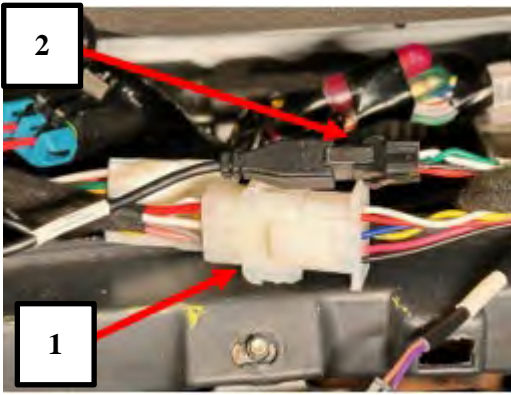
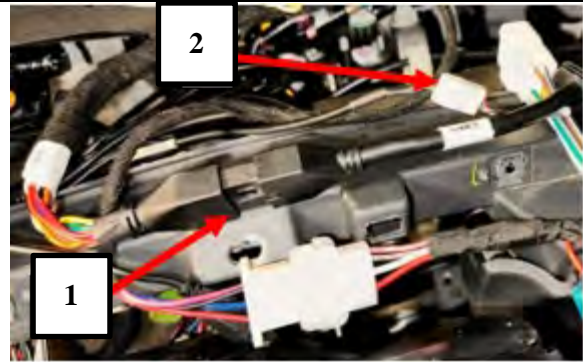

Figure 21
Figure 22
21. Disconnect the camera cable connections. **For Mobileye 6**, connector MH-2 and the EyeWatch connector MB-3. (See Figure 21.) **For Mobileye 8**, 14 pin (Black) connector and optional GPS connector. (See Figure 22.)